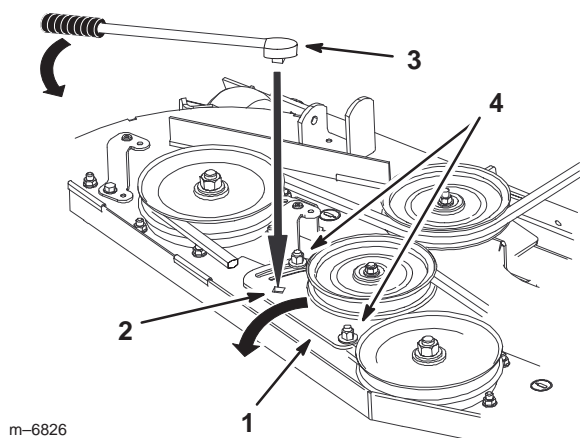

Figure 72
4. Loosen the nut securing the idler plate and move the idler plate to relieve the belt tension on the idler pulley (Fig. 72).
5. If adjustment is required, loosen the mower idler plate and adjust it (Fig. 72).
6. Insert a ratchet or breaker bar into the square hole in the mower idler plate to adjust the tension (Fig. 72).
7. To increase belt tension, rotate the mower idler plate until resistance is felt and rotation stops. Do not go past when it stops (Fig. 72).
8. Tighten the idler plate bolts (Fig. 72).
10. Adjust the belt tension and the idler plate, if necessary, and tighten all hardware securely (Fig. 72).